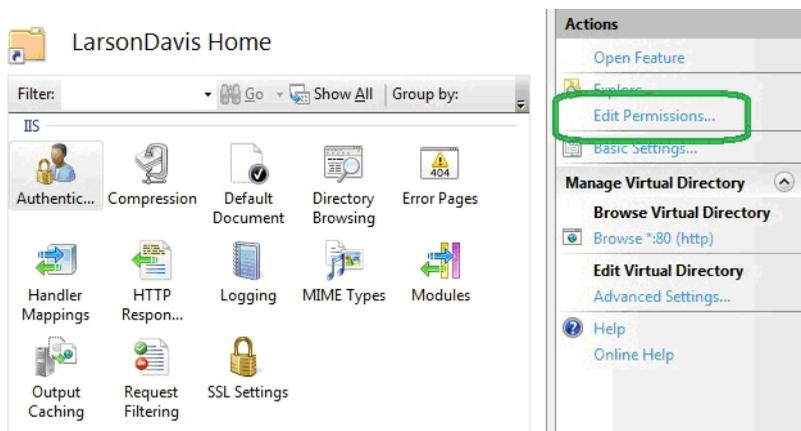

FIGURE 2-9 IIS Manager - Edit Permissions
Step 13 Select the application path and click **Edit Permissions...**, as shown in FIGURE 2-9.